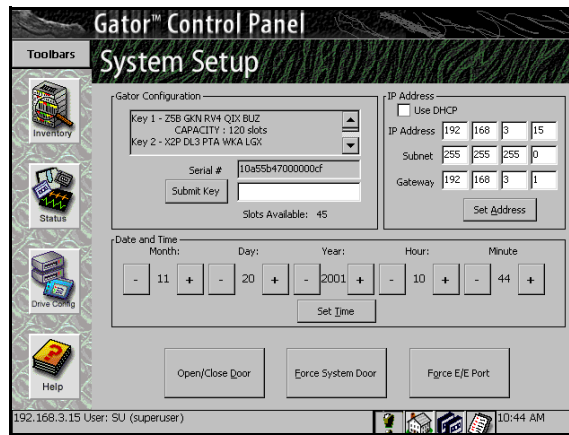

Figure 9-2 System Setup screen.
1. Tap **Robotics**, the System Setup screen appears (Figure 9-2).